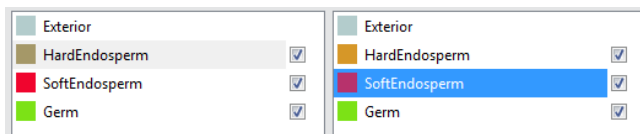

Figure 11.26: Contact Mode
- *Contact*: The contact mode allows selecting interfaces between two materials. Select the two materials from the materials list (Figure 11.26).